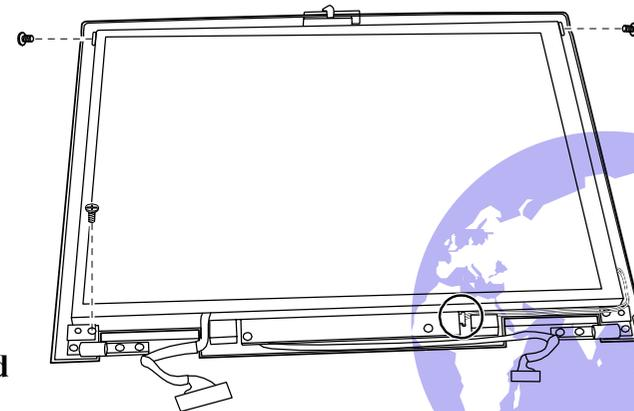

Figure 5-26. Removing the LCD
1. Reconnect the cable to the inverter board. Fit the LCD back into place and secure with three screws. (Refer to Figure 5-26.)